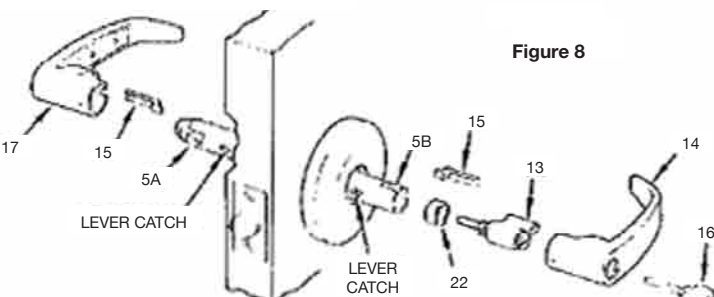

Figure 8
- Slide Cylinder Spacer (22) onto the Cylinder (13). Open end of the Spacer fits over the Cylinder Barrel. (See Figure 8).
- Insert the Cylinder (13) into the Outside Lever (14) and secure with Retainer (15).
- Slip the Outside Lever (14) onto the Outside Tube (5B) as far as possible. Insert the Key (16) and turn approx. 90° clockwise. Push the lever again until the lever catch is engaged, securing the lever. (Lever Catch may need to be depressed, using Push Pin (21).)
- Insert the remaining Retainer (15) into the Inside Lever (17) and slide the Lever onto the Inside Tube (5A). Push the lever until the lever catch is engaged. (Lever Catch may need to be depressed using push pin (21).)